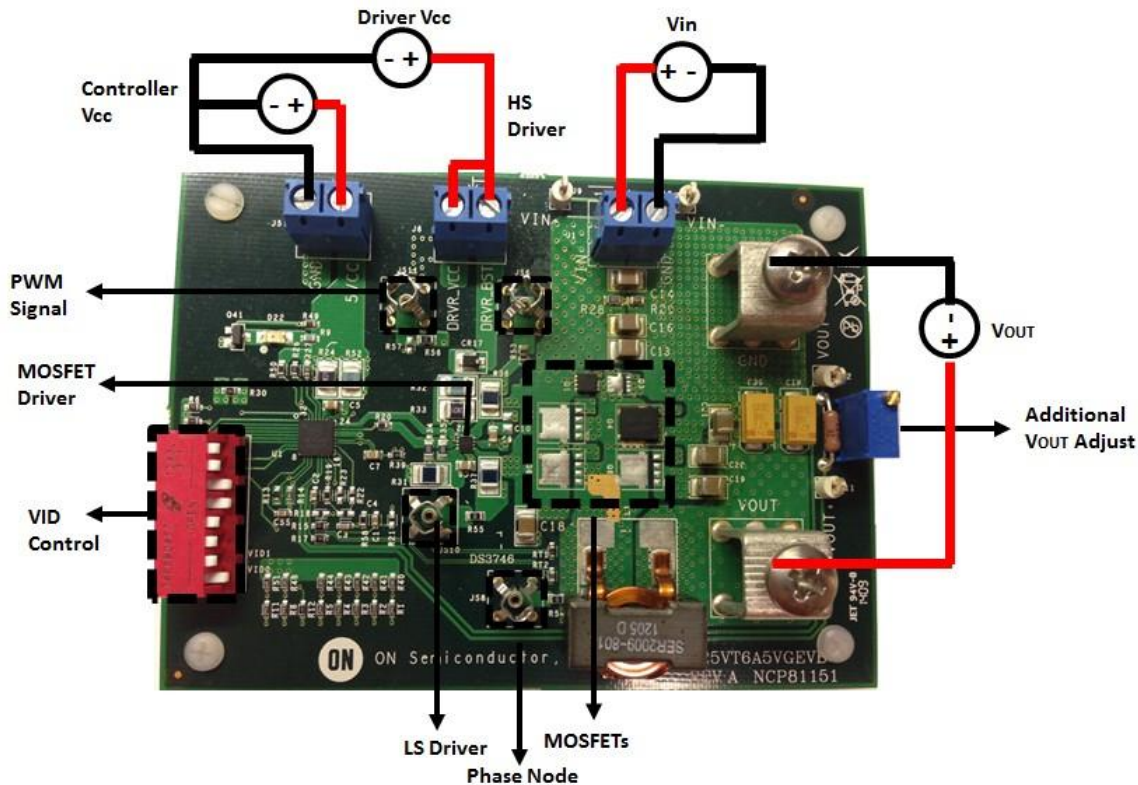

Figure 4. Schematic of the Test Setup
The test set up, test points and components present on the 25VT6A5VGEVB Evaluation Board are shown in Figure 4.
3. Connect the voltmeters / multi-meters to monitor the required parameters (refer to Figure 4).